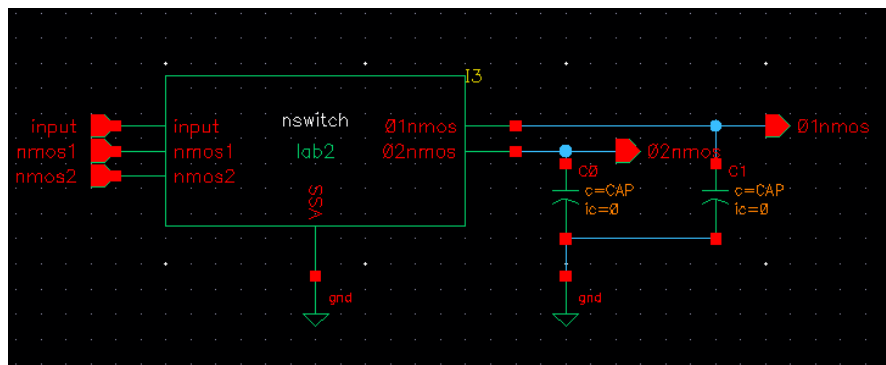

Figure Lab2-6 : Simulation Circuit
- (a) Start another new schematic window and capture the simulation circuit (nswitch_sim) shown in Figure Lab2-6.
- (f) Complete the connections of the circuit shown in Figure Lab2-6.